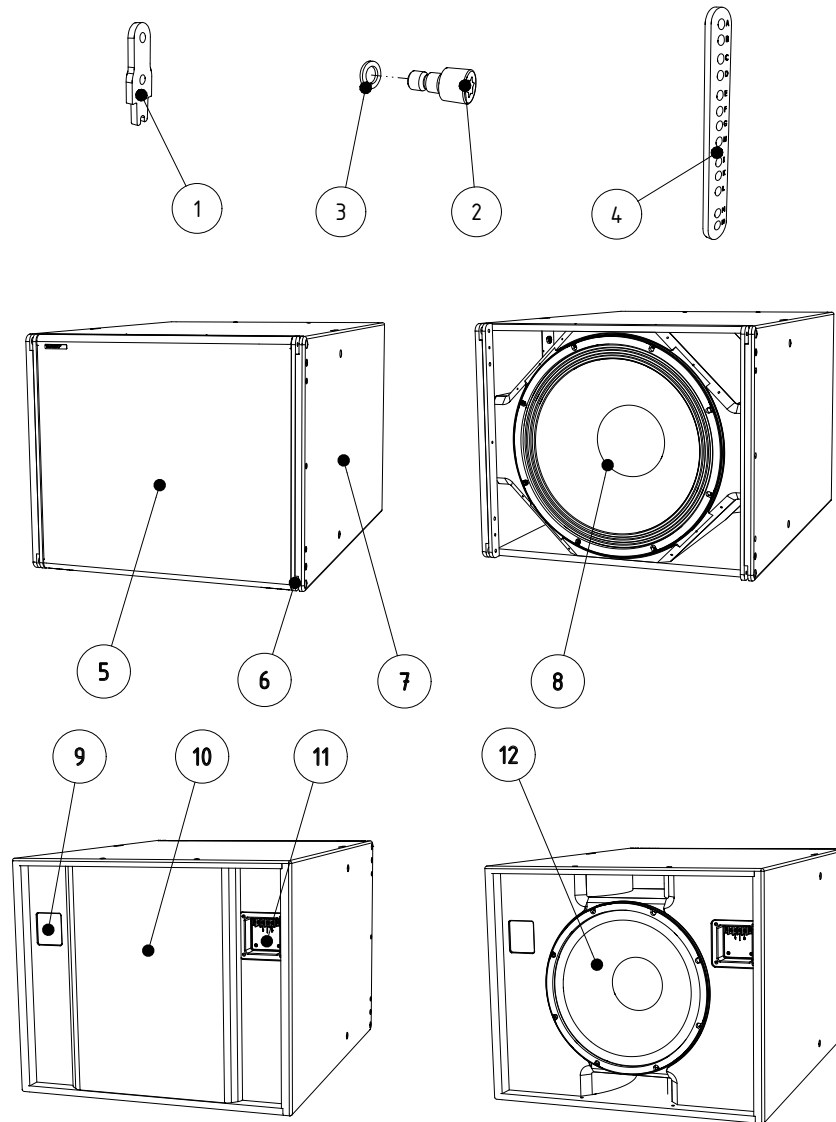

Figure 2.1 - Overview
Please note that the VERAS32i loudspeakers must be mechanically correctly connected with each other. This may only be done via the splay links and brackets (see figure 2.1 - pos.1 to pos.4)!